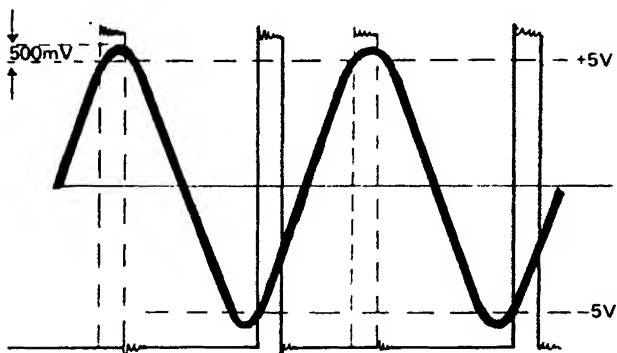

Figure 4-14
3. Set Oscilloscope controls to get a display as shown in Figure 4-14.
4. Vary EXT. INPUT LEVEL control from CCW to CW and check that trigger level is adjustable within +5V and -5V (Figure 4-14).